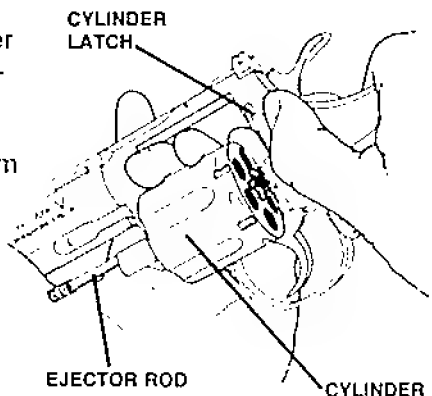

FIGURE 2—OPENING REVOLVER
2. Open revolver by pulling cylinder latch to the rear and pushing cylinder out to the left (See Figure 2). Check each of six chambers to ensure they are clean and free from accumulated oil. (Clean if necessary.)
2. Open revolver by pulling cylinder latch to the rear and pushing the cylinder out to the left of revolver (See Figure 2).